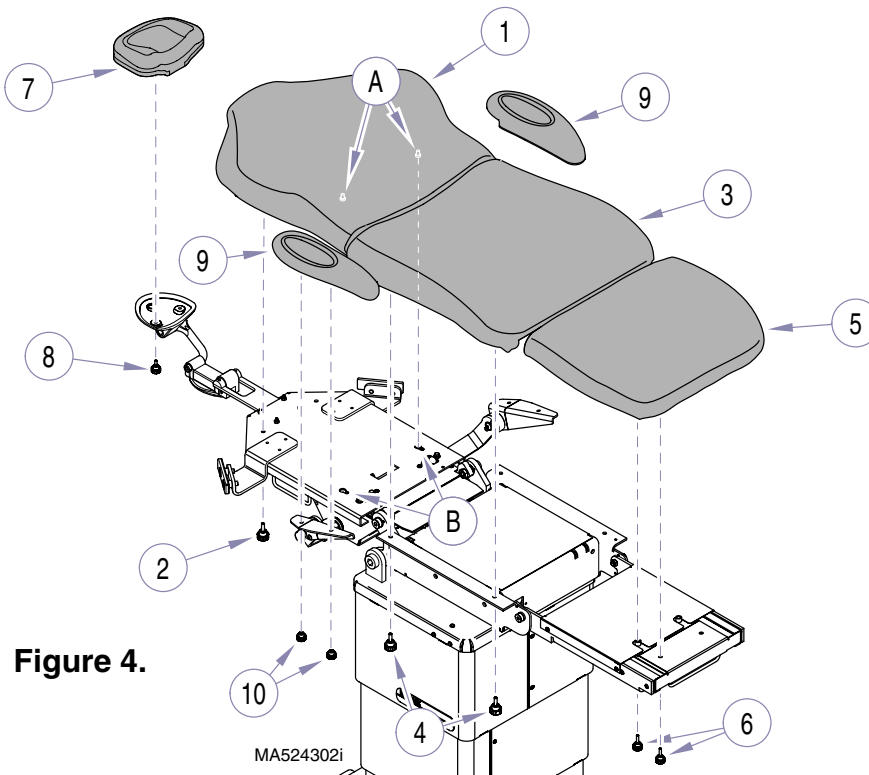

Figure 4.
3. Position back upholstery (1, Figure 4) with two locking posts (A) in slots (B); then push upholstery toward foot end to engage posts. Secure with two large knobs (2).